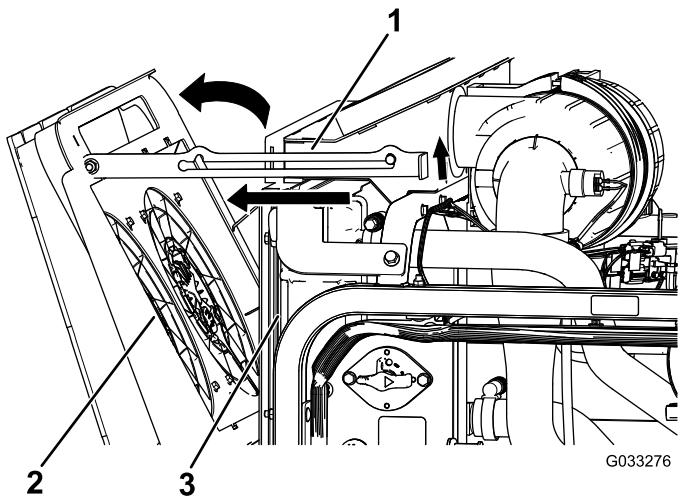

Figure 107
2. Pivot the engine-cooling fans rearward of the radiator and lock the prop rod into the notch (Figure 107).